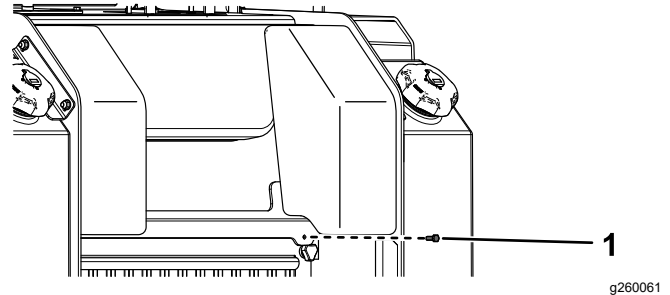

Figure 34
1. Remove the fastener (Figure 34).
2. Lift the rear-access cover up and secure the prop rod to access the internal components (Figure 34).